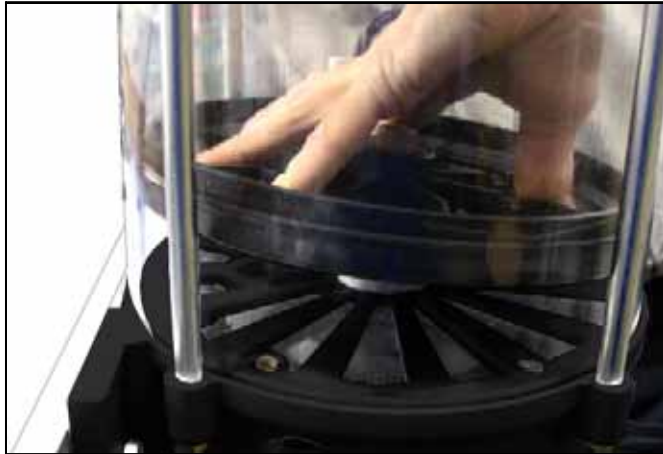

Fig. 5 Tilt follower plate
- Tilt follower plate (see Fig. 5)